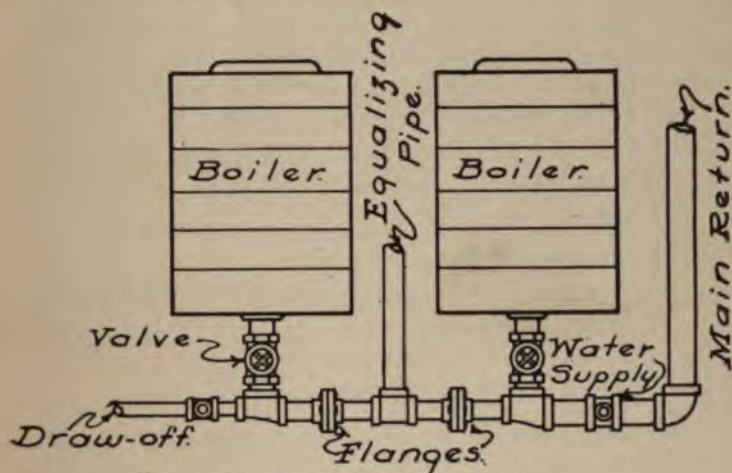

Fig. 46.—Return Header on Boiler.
A. When two or more boilers are connected together it is advisable to run a pipe across the rear of the boilers and connect the return openings of each boiler to it. This is called a return header and its use permits an equal distribution of the return water to each boiler. The return pipes from the heating system may then be connected to this header at any convenient point. Fig. 46. On work requiring a single sectional boiler of large size it is advisable to use a return header.